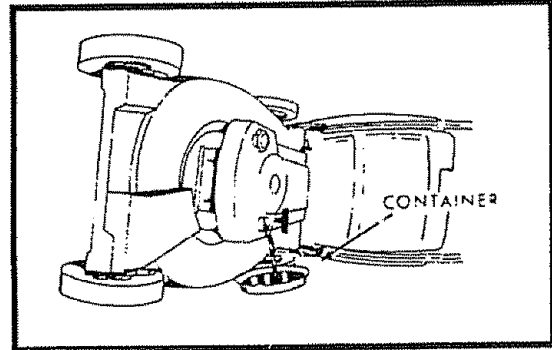

FIG. 10
- Tip mower on its side as shown in Fig. 10 and drain oil into suitable container. Rock mower back and forth to remove any oil trapped inside of engine.